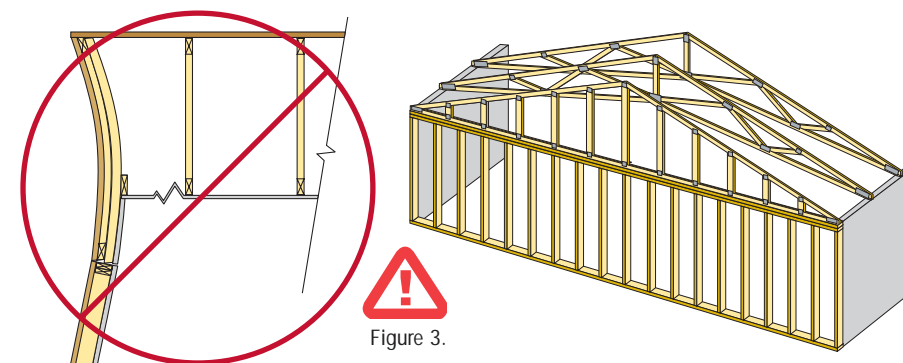

Figure 3.
Figure 3. Two-tiered market showing price spread (USD) between the U.S. price, delivered U.S. destination, and Canadian price (USD), delivered Toronto, for ESPF, 2x4.
prices in Canada. This is called a "two-tiered market" as Canadian SPF prices in Canada (USD basis) can be significantly lower than SPF prices in the U.S. (Figure 3). During 2004, after converting to USD, the spread for Canadian Eastern SPF, KD, 2x4, delivered Toronto versus delivered, Great Lakes (a U.S. destination), ranged from \$87/M to \$20/M. During 2004, Canadian component manufacturers paid about ten percent less for SPF (USD basis) than their U.S. counterparts, lowering their manufacturer's costs and making them more competitive when shipping to U.S. customers. This puts the unintended consequence of no duty on Canadian manufactured components/trusses shipped to the U.S. in front and center view and explains why it is difficult for component manufacturers to create long-term business plans. The uncertainty from day-to-day, month-to-month and year-to-year is illustrated in Figure 3. **SBC**
4. In the field, it is standard practice for carpenters to frame the gable wall top-plate at the same height as the nearby bearing wall top-plate height. Then they install a flat bottom chord gable truss on top of this wall top-plate. Using this framing technique, the gable wall top-plates will not match the ceiling planes of an adjacent scissor or vaulted truss. This will cause a hinge effect under certain wind loads as shown in Figure 3 on page 29.